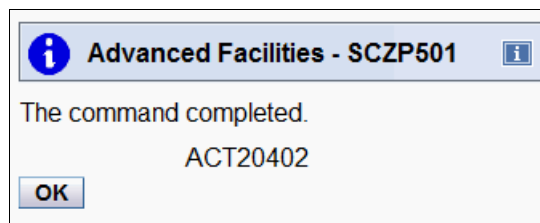

Figure 14-83 OSA Advanced Facilities: Import file success
8. The next window (Figure 14-83) indicates that the source file import is complete. You can now remove the USB flash drive.